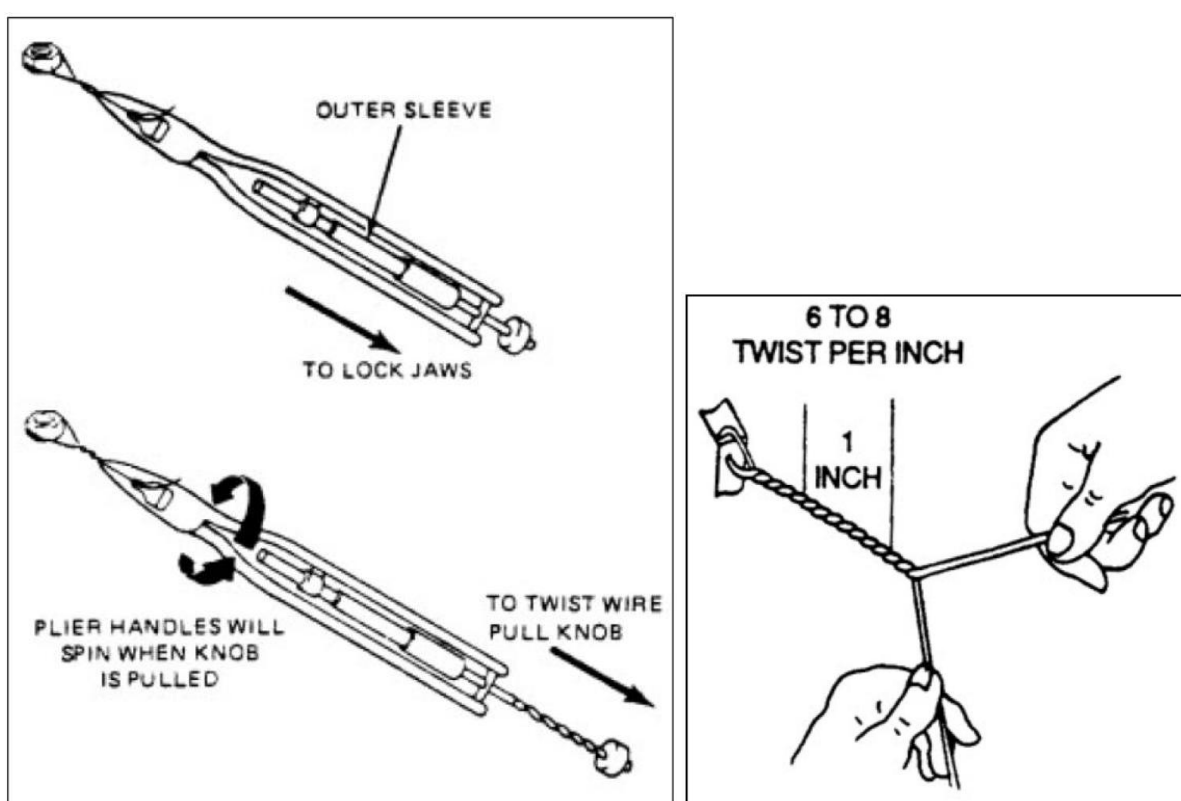

Figure 43 – Safety Wire Installation Using a Twister/Pliers & By Hand
- e. Safety wire must never be over-stressed. Safety wire will break under vibrations if twisted too tightly. Safety wire must be pulled taut when being twisted, and maintain a light tension when secured (Figure 43).